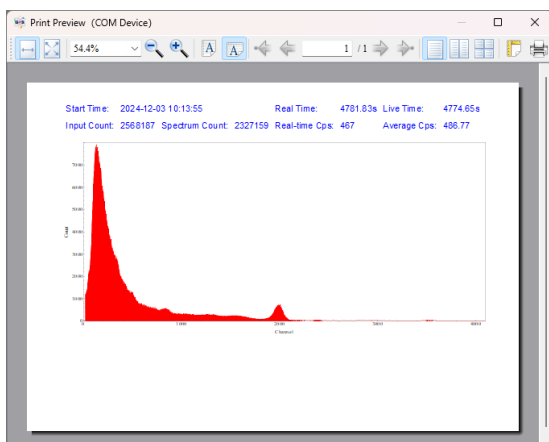
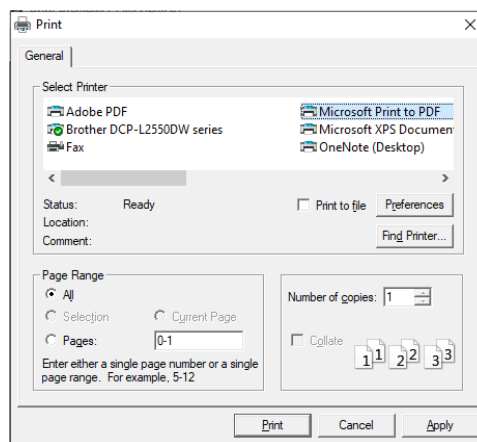

Fig.16: Export-Print Preview Window
Fig.17: Print Window
- ① **Print** - A preview window as shown in Fig.16 will pop up. Clicking print will bring up the print window as shown in Fig.17. If a printer is connected, you can directly select the printer to print it out. Or you can choose to Print to PDF, and clicking the print button will